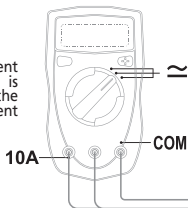

Figure 4
(Figure 4)
D. AC Current Measurement (Figure 4)